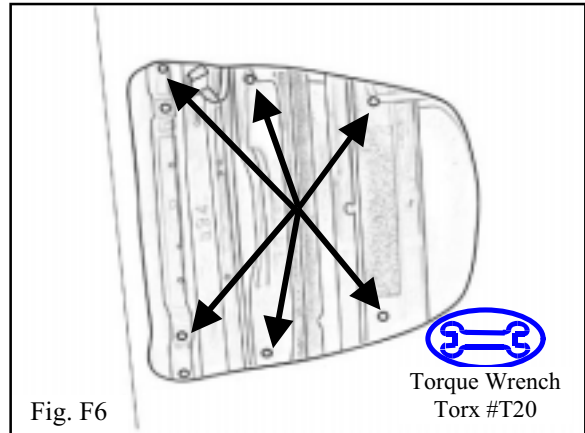

Fig. F6
- ➔ x. Using the six (6) supplied M4 screws, mount the overhead console to the installed riv nuts. (Fig. F6)
- (1) Tighten the screws to 1.35 N-m (12 lbf-in.)